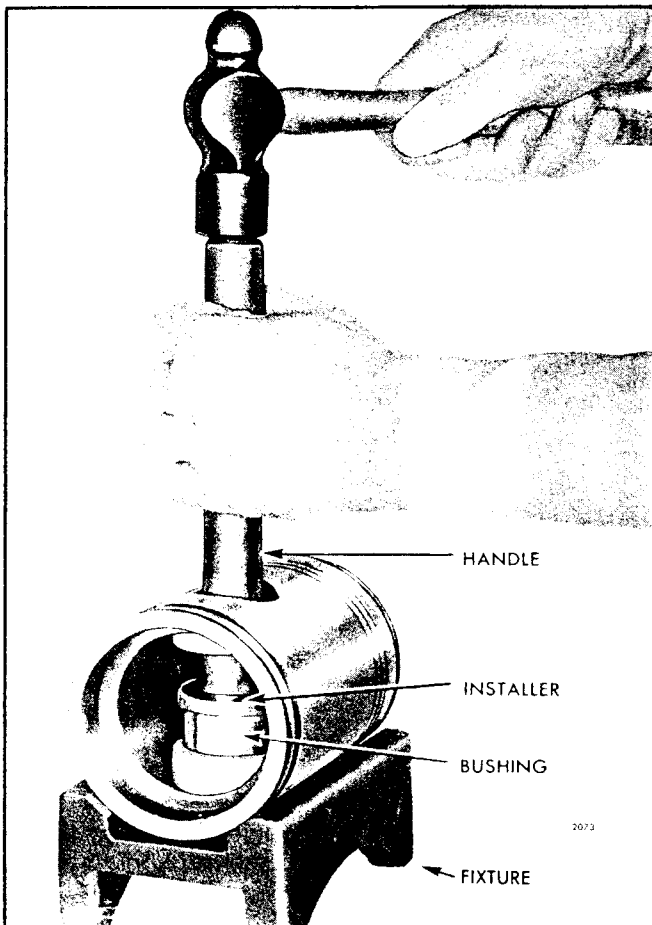

Fig. 5 - Removing or Installing Piston Pin Bushings
2. Drive each bushing from the piston with the bushing remover J 4972-4 and handle J 1513-2 in the manner illustrated in Fig. 5.